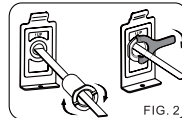

FIG. 2
6. Carefully Pass the ribbon connector thru the locking barrel (7) and tighten locking barrel with tightening tool (8) (FIG. 2). NEVER turn the camera/ribbon connector as this will damage the unit.